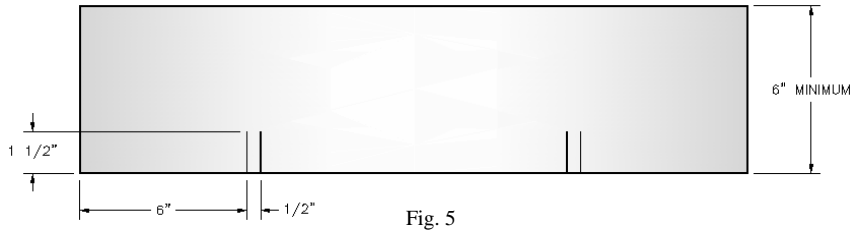

Fig. 5
- K.** Cut 1-1/2" slits at each end of the flashing as shown below. (Fig. 5)